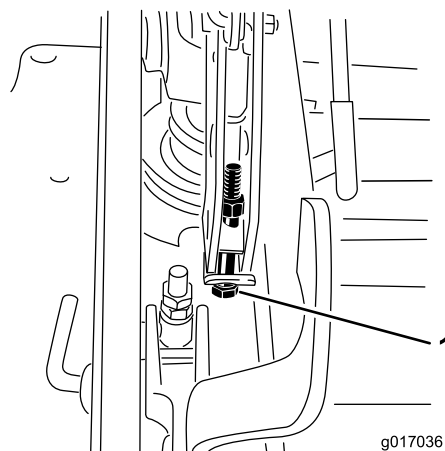

**Figure 74**
12. To adjust the single point system, loosen the 2 bolts at the bottom of the height-of-cut plate (Figure 74).
14. Tighten the 2 bolts at the bottom of the height-of-cut plate (Figure 74). T